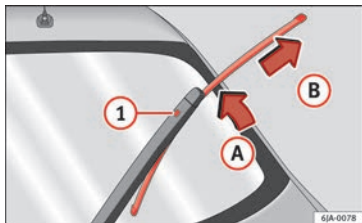

Fig. 137 Rear window wiper blade.
- Lift the rear window wiper arm away from the glass moving the blade slightly in the direction of the arm – arrow **(A)** » Fig. 137.